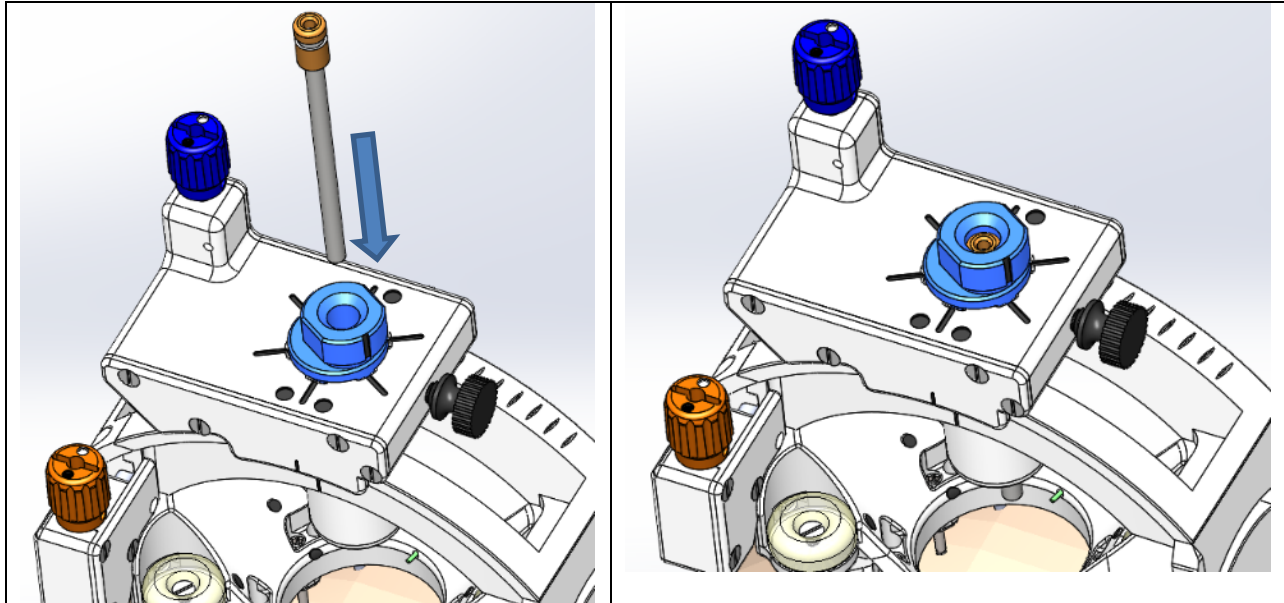

Figure 31: Guide Tube inserted into Insertion Guide
8. If using the Guide Tube is desired, then insert the Guide Tube into the Insertion Guide's inner diameter such that the top of the Guide is below the top surface of the Insertion Guide. **See Figure 31.**